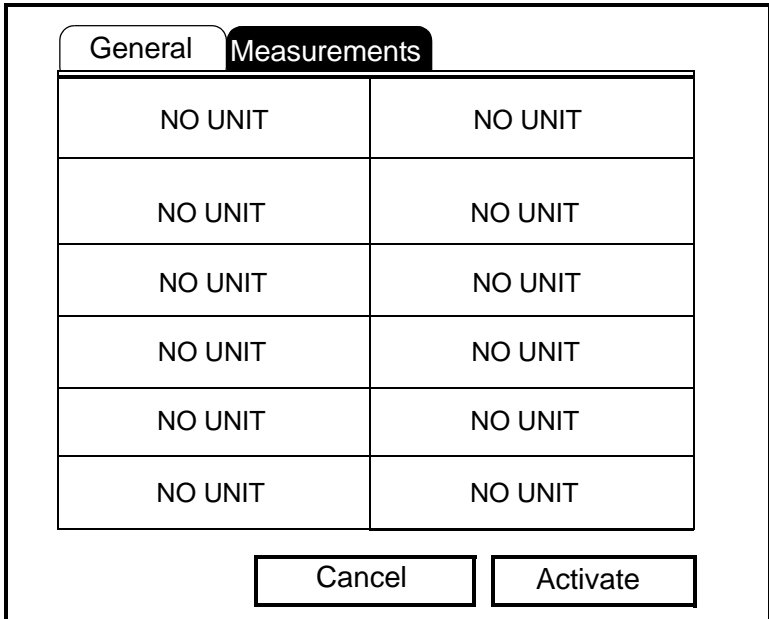

Figure 7-6: The Log Measurements Window
- c. Finally, press the [▶] key to move to the Measurements tab, and press [ENTER]. The Measurements window appears similar to Figure 7-6 on page 7-8.
5. If you wish, scroll to the Measurements window (shown in Figure 7-6 on page 7-8) and follow the procedure discussed on pages 7-8 and 7-9 to modify any parameters.